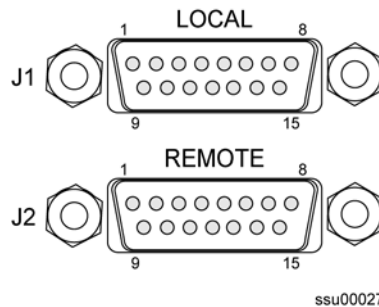

Figure 2-11. Alarm Contact Closures and Pin Assignments
The SSU-2000e Shelf has two filtered DA15P male connectors for local and remote alarm contact closure connections, as shown in Figure 2-11. The local connections are made on J1 and the remote connections are made on J2. The connectors are labeled ALARM CLOSURES, LOCAL (J1) and REMOTE (J2). They each have connections for normally open (NO), common or wiper (COM), and normally closed (NC) for each of these alarm categories: CRITICAL, MAJOR and MINOR.